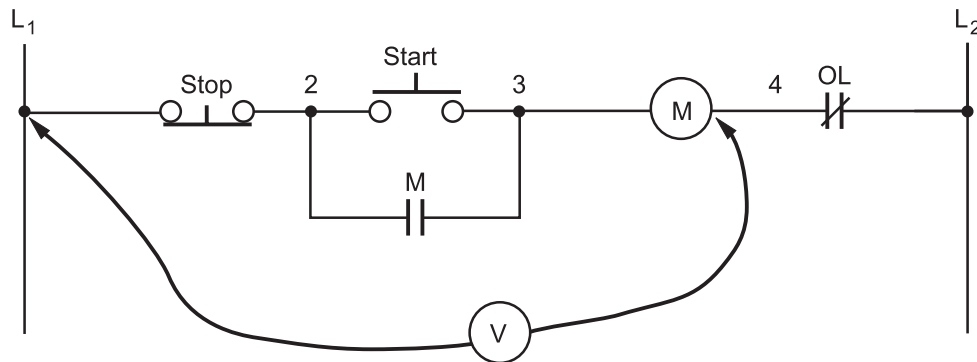

Figure 6—Testing a motor control circuit with a voltmeter
2. Leave one end of the voltmeter at L_1 . Move the other lead to point 4 in the control circuit, as shown in Figure 6.